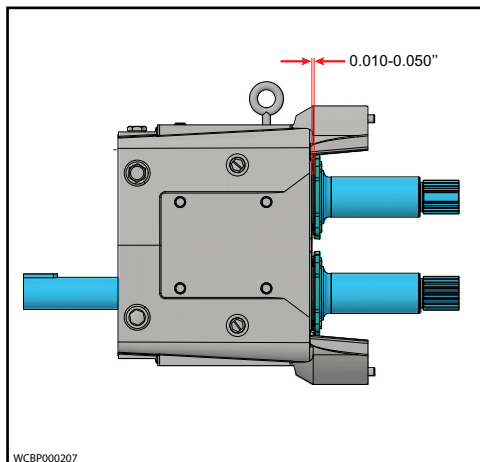

Figure 76 - Clearance
5. The bearing retainer must rest firmly against the bearing. Leave a 0.010 to 0.050 in (.25 to 1.25 mm) clearance between the back of the bearing retainer and the front of the gear case (Figure 76). If this clearance is not met, place shims between the bearing and retainer.